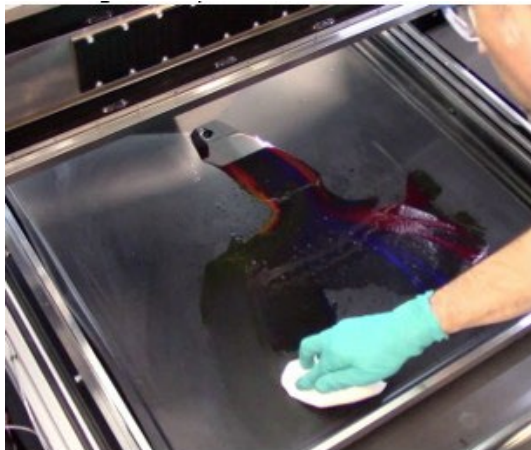

Figure 4-5 Clean Purge Tray with Clean Room Wipes
4. Clean the purge tray with clean room wipes. (Figure 4-5)